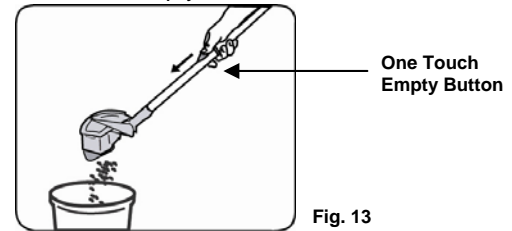

Fig. 13
- Lift out the dust container, which is connected to the handle. Hold over a trash bin and push down on the no touch empty button located on the handle. (Fig. 13)